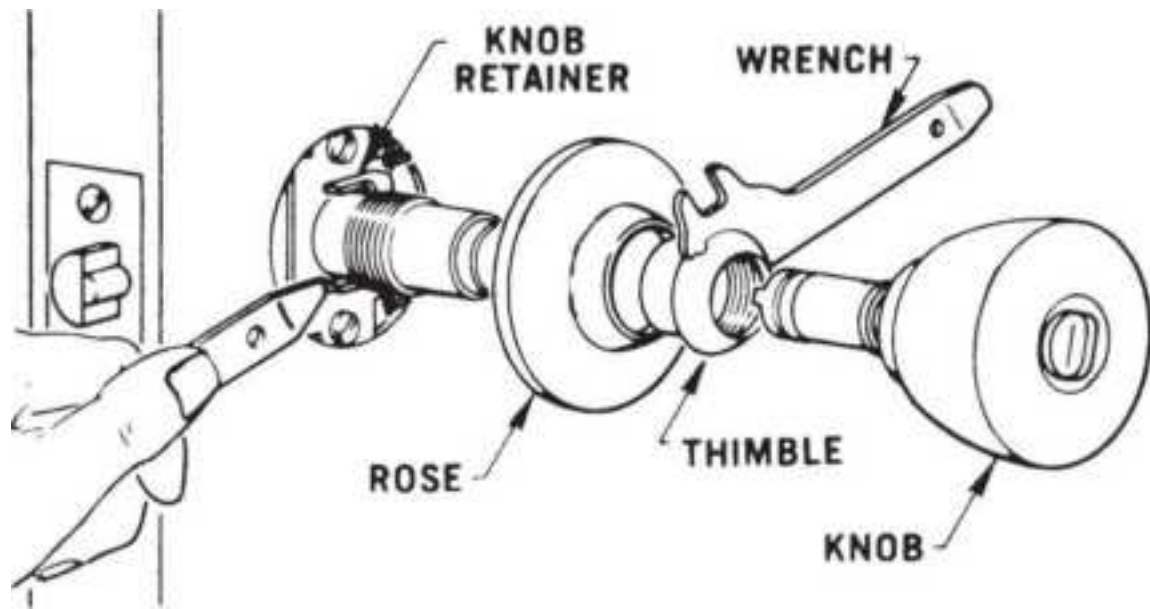

**Figure 13.11** Tightening the lockset.
**Tightening the locksets.** Tighten the inside rose thimble with a wrench. If the thimble needs to be taken up a great deal, tighten the *outside* rose at the same time to prevent possible misalignment and binding of both (Fig. 13.11 ).